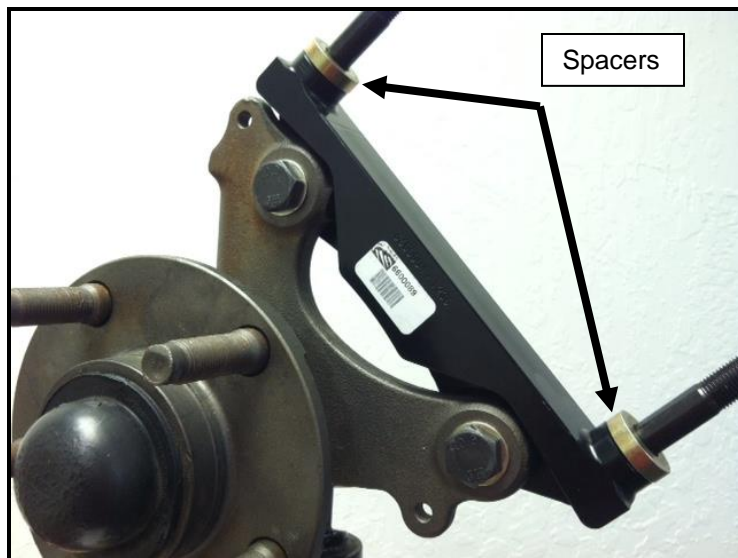

Figure 3: Bracket installed with spacers
6. Install the intermediate bracket to the inboard side of the spindle using the supplied M12-1.75x40 bolts and washers. ****Note:** Spacers are equipped with the new brake system. They will reside on the bracket and the caliper will rest on them. Torque to 85 ft-lbs. See Figure 3 below, for reference: